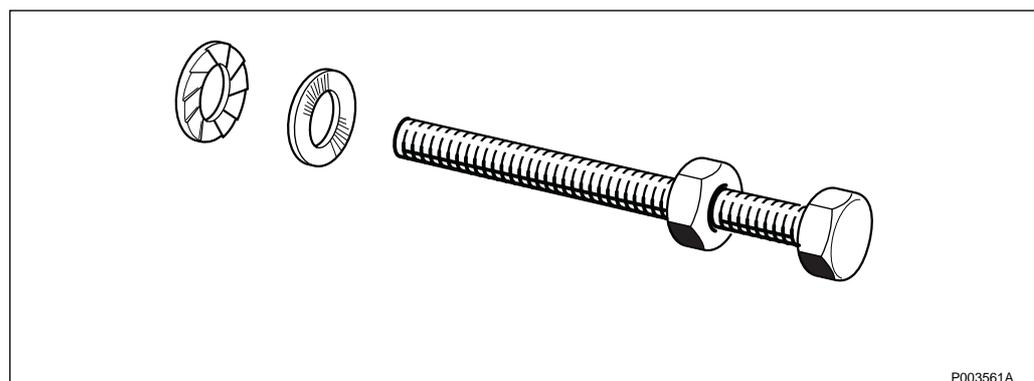

Figure 123 Mounting the washers
2. Make sure that the washers are mounted correctly, *see Figure 123 on page 132.*
5. Make sure that the washers are mounted correctly, *see Figure 123 on page 132.*